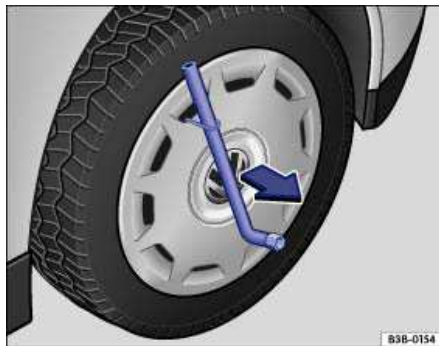

Fig. 207 Pulling the wheel cover off.
- Slide the lug wrench through the clip ⇒ fig. 207 and pull the wheel cover off in the direction of the arrow.